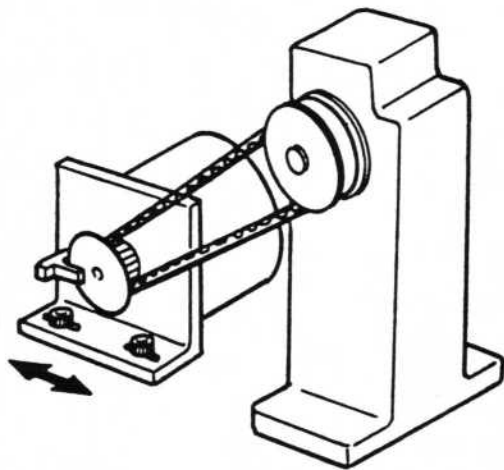

Fig. 8
1. Adjust the tension of all belts except Belt YM (Figure 8).